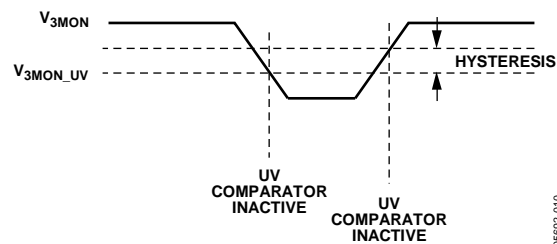
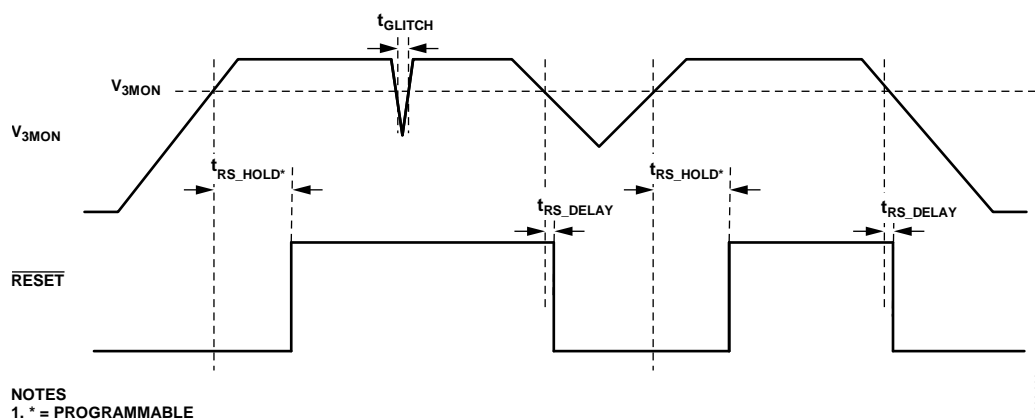

Figure 9.  $V_{3MON}$  Hysteresis
Figure 10.  $V_{3MON}$ ,  $\overline{RESET}$  Timing Diagrams
The  $V_{3MON}$  pin is monitored by a comparator to detect an undervoltage condition. It is designed with 1.5% hysteresis. When the  $V_{3MON}$  input drops below the programmed UV threshold, the comparator becomes active immediately, indicating that a UV condition has occurred. Due to hysteresis, the  $V_{3MON}$  input must be brought above the programmed UV threshold by 1.5% before the comparator becomes inactive, indicating that the UV condition has gone away (see Figure 9).
The  $V_{3MON}$  and  $\overline{RESET}$  timing diagrams are shown in Figure 10. The range of thresholds is shown in Table 6 and the programming code for the selected threshold is found in Table 7. The range of reset hold times is shown in Table 8 and the programming code of the selected timing is found in Table 9.
- When the external monitoring processor cannot issue the necessary WDI signal and advanced WDI mode is selected (see Figure 10 and Figure 9)
- When  $V_{3\text{MON}}$  drops below the threshold (see Figure 10)